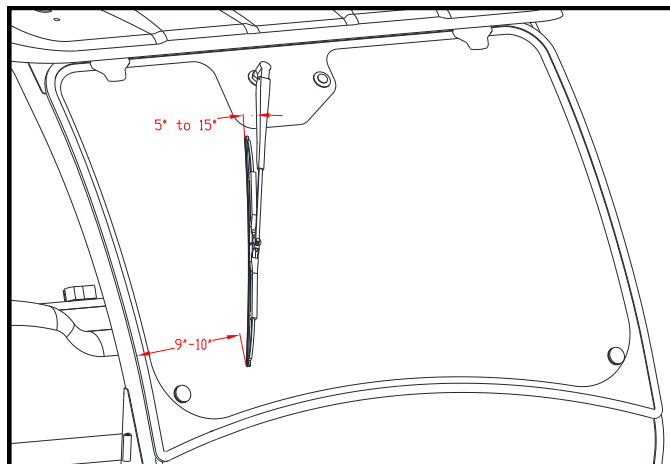

Figure 9.8: Wiper Arm parked location
9.8 Use Length adjustment tab and angle adjustment bolt on wiper arm to adjust arm noted in figure 10.6, to following specifications. **(Figure 9.8):**